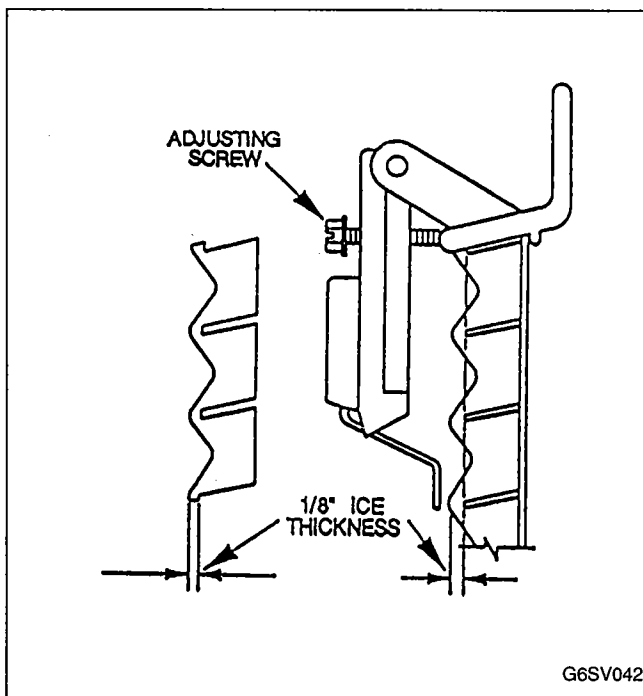

FIGURE 44. ICE THICKNESS CHECK
1. Turn adjustment screw (Figure 44) on ice thickness probe clockwise to increase ice thickness, counter-clockwise to decrease ice thickness.